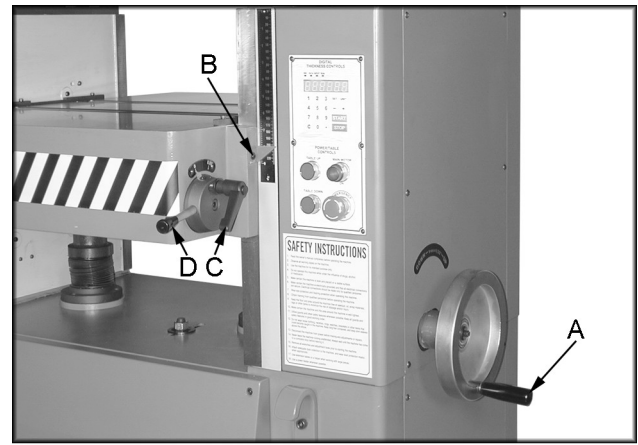

Figure 7
Turn the handwheel (A, Figure 7) clockwise to raise the table. One revolution equals 1/32" or 0.03". **Note:** The handwheel is spring loaded. Push in on the handwheel and rotate until the pins engage the detents.
2. Adjust the pointer (B, Figure 7) by loosening the screw that holds it in place. **Note:** This measurement should be the same as digital readout.
Loosen the handle (C, Figure 7) and move the table rollers up, or down by raising, or lowering the handle (D, Figure 7). When you reach the desired position tighten the handle.